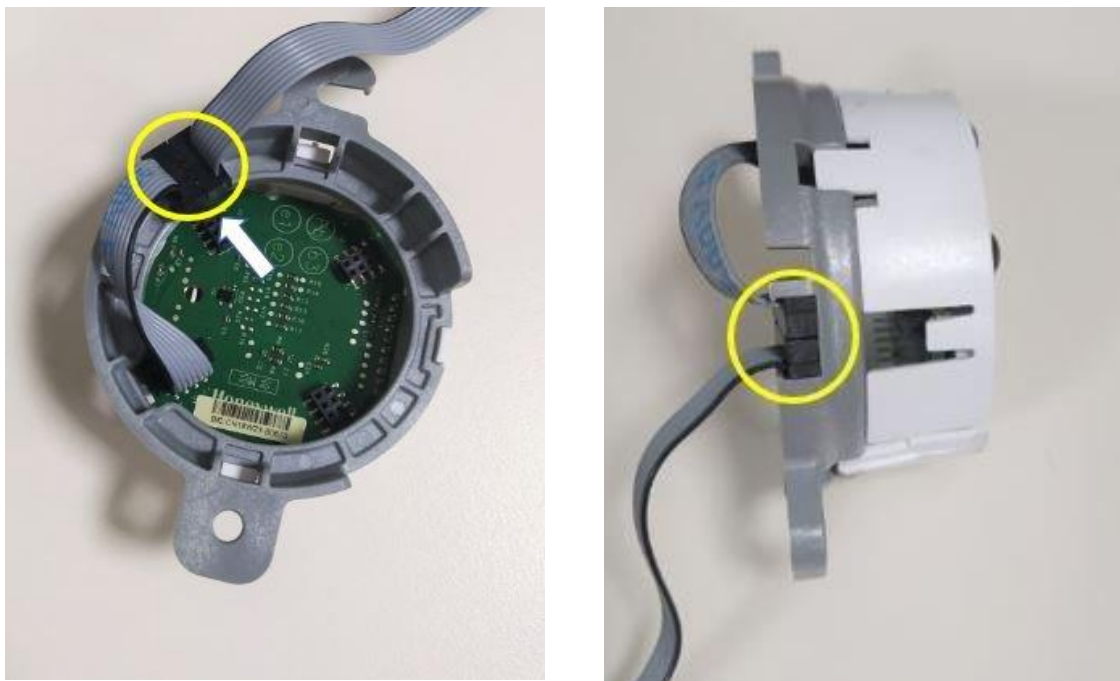

Figure 7: Cable joint fixed in the bracket
D) Fix the cable joint by sliding it slowly into the slot provided in the bracket as shown in Figure 7.